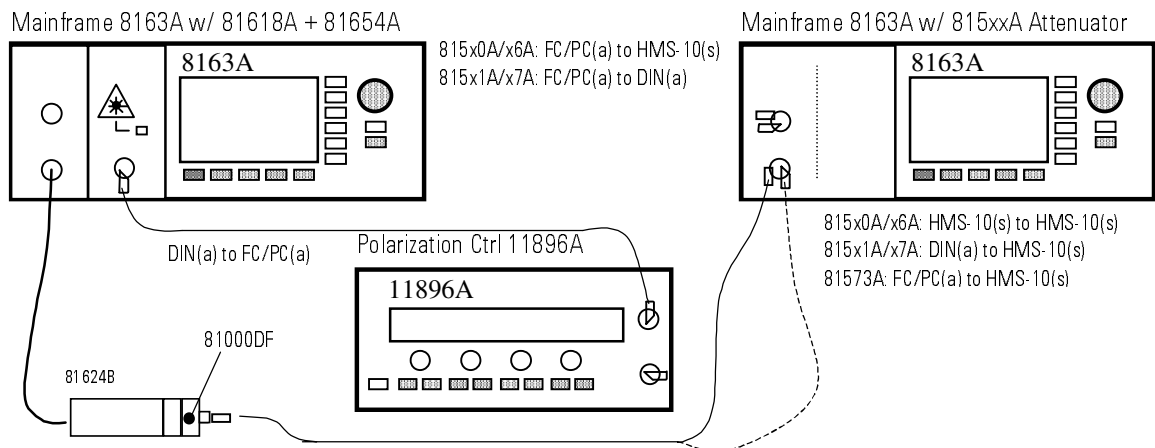

Figure 16 PDL Test Setup - Scanning Method
- 3 Connect the equipment as shown in Figure 16